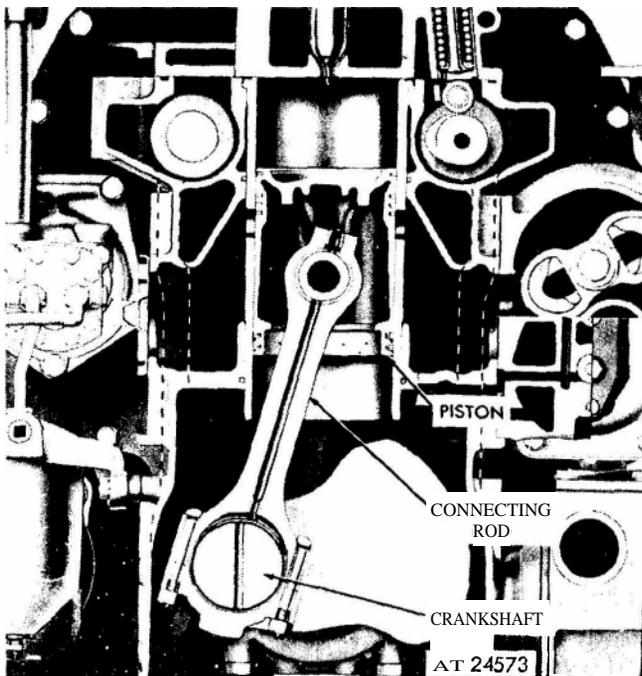
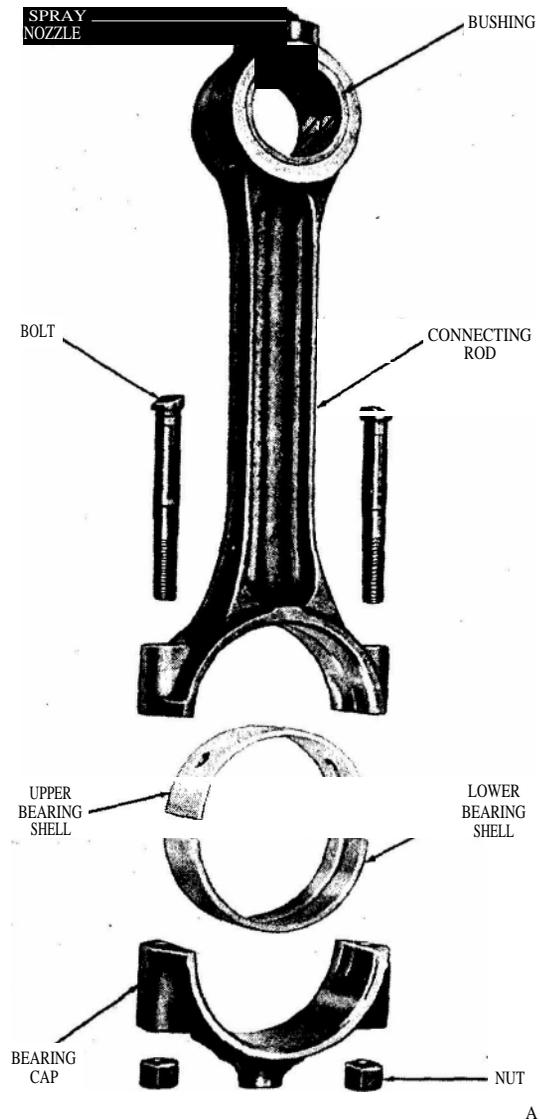

Figure 1. Connecting rod mounting.
Figure 2. Typical connecting rod details and relative location of parts.
With the connecting rod assembly inspected and assembled to the piston as outlined in section 1.6.1, refer to figure 1 for the proper location of the piston rings on the piston. Assemble the compression rings on the piston with tool J 8128, as shown in figure 2, and stagger the ring gaps around the piston. When installing the compression or oil control rings, do not spread the rings more than is necessary to slip them on the piston to avoid overstressing the rings.
1. Install a peripheral abutment expander in the upper oil ring groove (fig. 1), being careful not to overlap the ends.
Each connecting rod (figs. 1 and 2) is made of steel and forged to an "I" section with a closed hub at the tipper end and a cap at the **lower end**. The rod is drilled to provide lubrication to the piston pin at the upper end and is equipped with an oil spray nozzle for cooling the underside of the piston head. The connecting rod bearing shells are of the precision type without shim adjustments. The upper and lower connecting rod bearing shells are different and, therefore, are not interchangeable. A helically-grooved bushing is pressed into each side of the connecting rod at the upper end. A cavity of approximately  $\frac{1}{8}$ " between the inner ends of these bushings, registering with the drilled oil passage in the connecting rod, forms a duct around the piston pin. A portion of the oil from this duct lubricates the piston pin and bushings, the remainder of the oil is forced out of the spray nozzle for piston cooling. The piston pin floats in both the piston and connecting rod bushings. Service connecting rod assemblies include the lower bearing cap, bolts, nuts, spray nozzle and the upper piston pin bushings pressed in place and bored to **size**. The bearing shells (upper and lower) are replaceable without machining ; new piston pin bushings must be reamed after being pressed into the connecting rod. Bushing installation and reaming precedures are outlined on the following pages.